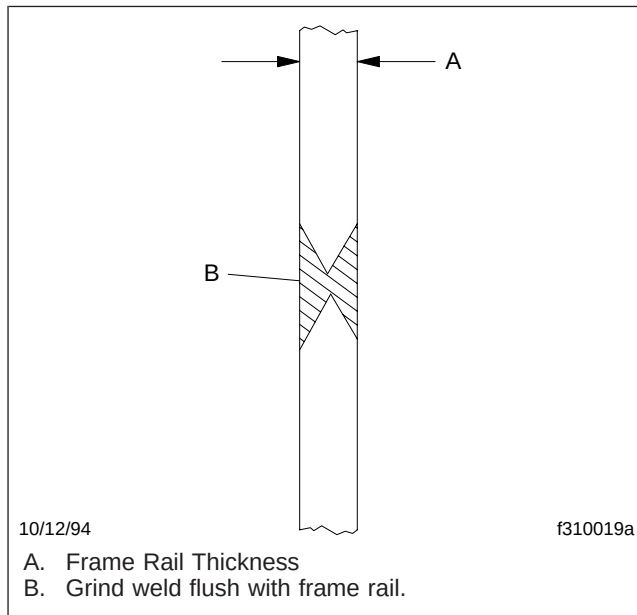

Fig. 8, Second Weld Ground Flush
8. Grind the weld flush with the frame rail. See Fig. 8.